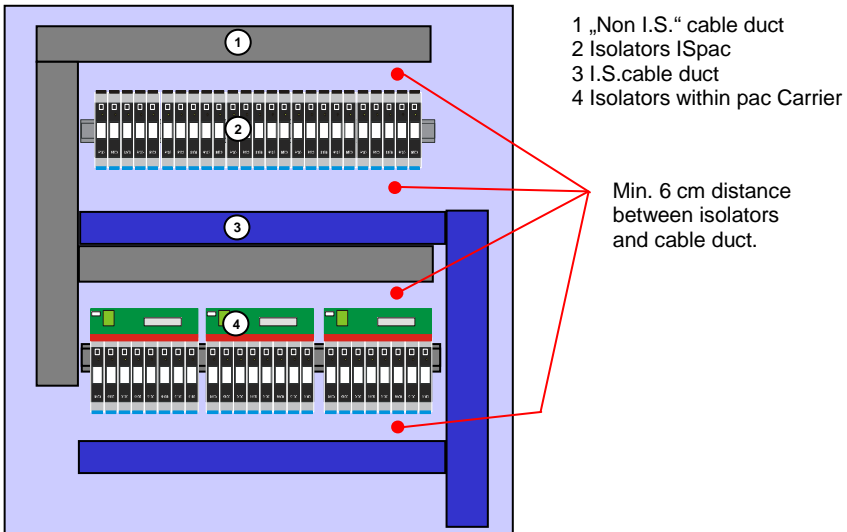
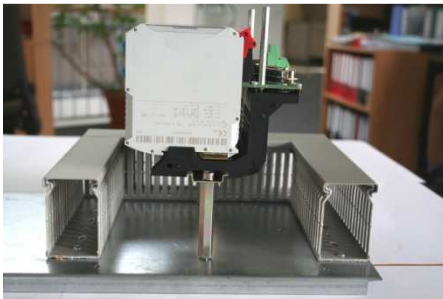

Fig. 1 Horizontal orientation in the cabinet
Fig. 3 Mounting by means of distance bolts
5. Take care about reasonable distance between ISpac isolators and cable channels. We recommend a distance of 6 cm. (see figure 1 and 2). If the place in the cabinet does not allow to keep the distance we strongly recommend to place the DIN rail away from the back side of the cabinet by means of distance bolts. The modules are within the air stream. In addition a ventilation should be applied. (see fig. 3)